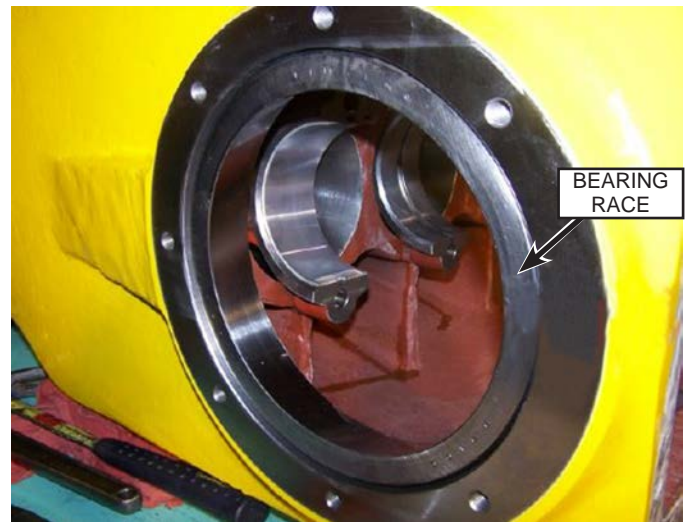

Fig. 158: Bearing Race Installation
6. Install the outer bearing race (Fig. 158) into the power frame using a rubber mallet. Install the race so it is flush with the face of the case.